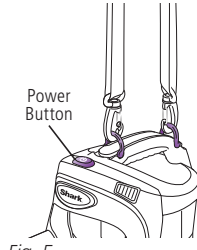

Fig. 5
- 4 Attach the shoulder strap onto the hooks on the handle of the Portable Vac. (**fig. 5**)
- 8 While holding the Portable Vac by the handle, press down on the power button to turn the Portable Vac on and begin vacuuming. Press down again to turn the vacuum off. (**fig. 5**)